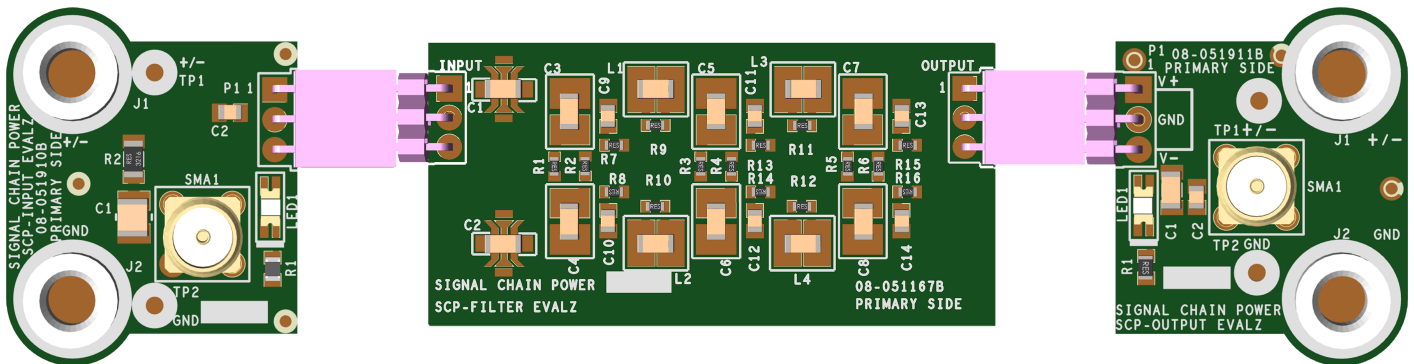

Figure 2. Proper Measurement Equipment Setup (Use SMA connectors for Measuring Input or Output Ripple)
2. Connect the SCP-INPUT-EVALZ and SCP-OUTPUT-EVALZ boards to the SCP board under evaluation (refer to Figure 2) and connect the input board to a voltage source,  $V_{SOURCE}$ . Connect the output board to a voltmeter or dynamic load. Slowly raise the input voltage until the SCP-FILTER-EVALZ powers up the device under test into regulation and sweep  $V_{SOURCE}$  through the desired range of operation.